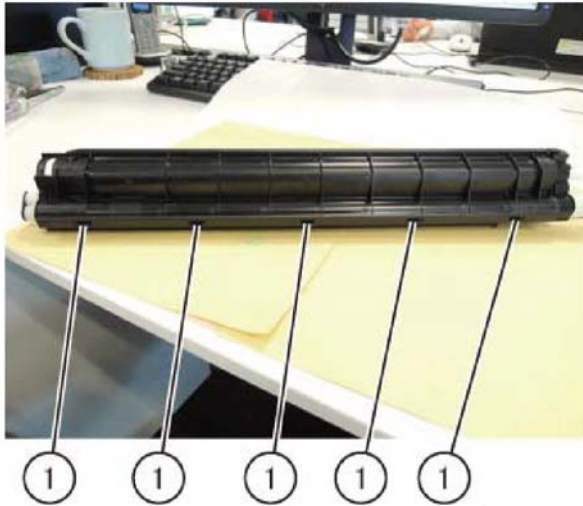

Figure 9 Secure the upper SUB cover assembly
15. Secure the upper SUB cover assembly, Figure 9.
- a. Press the openings (1).